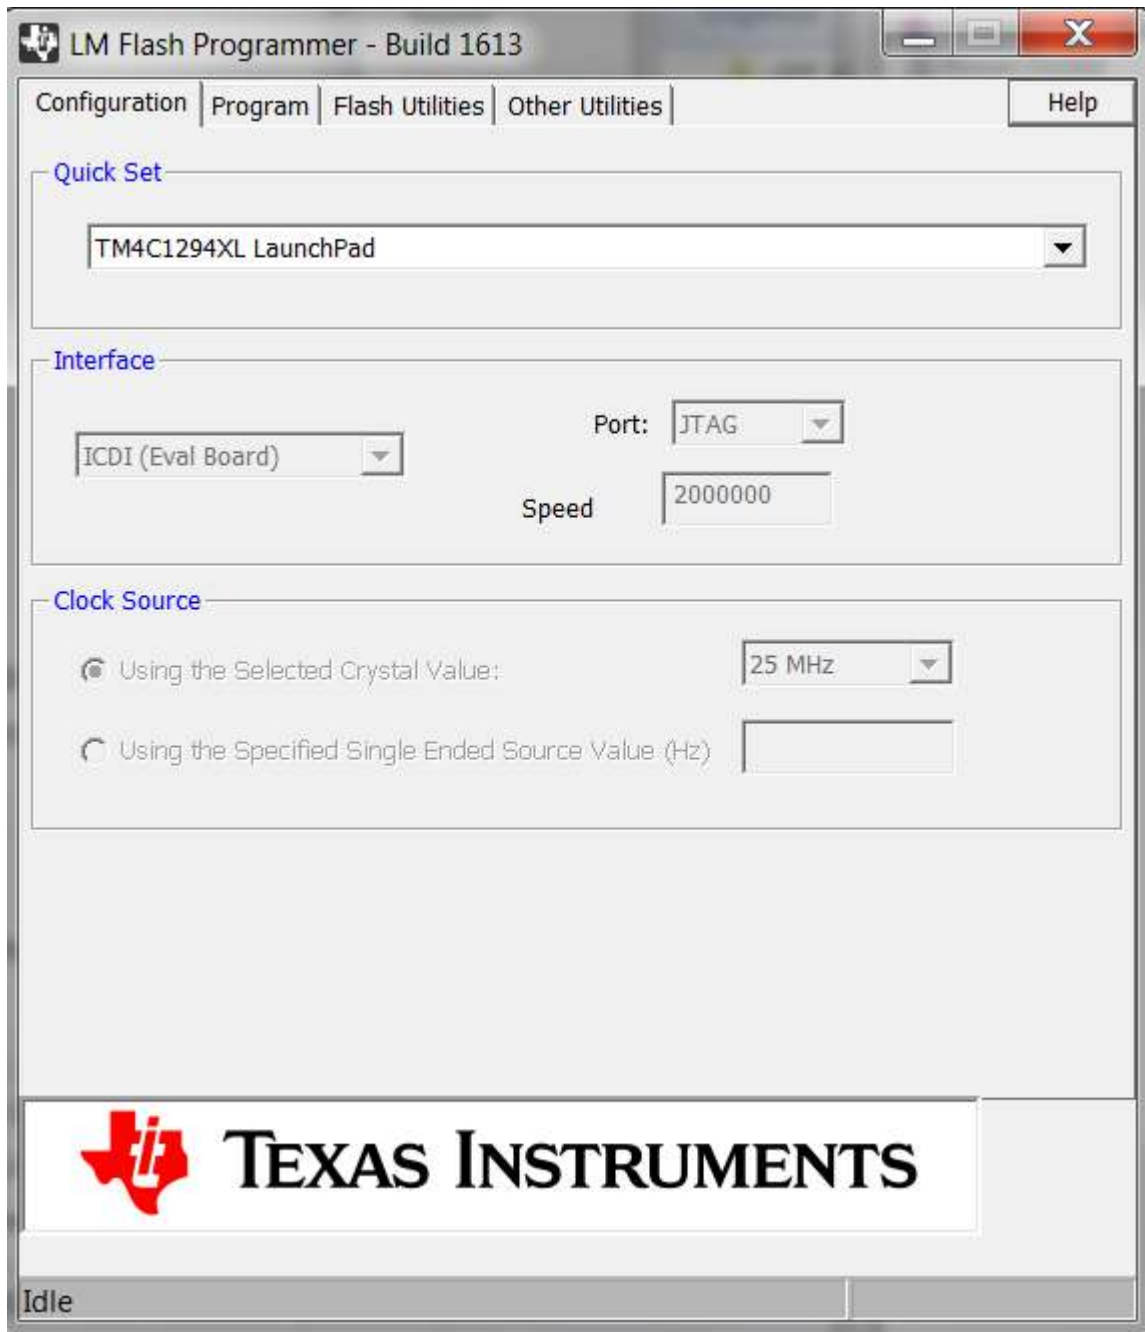

Figure 7. TM4C1294 LaunchPad™ selection in Configuration Tab
3. Launch the LM Flash Programmer. In the Configuration tab select *TM4C1294XL LaunchPad* from the drop-down menu as shown in Figure 7.